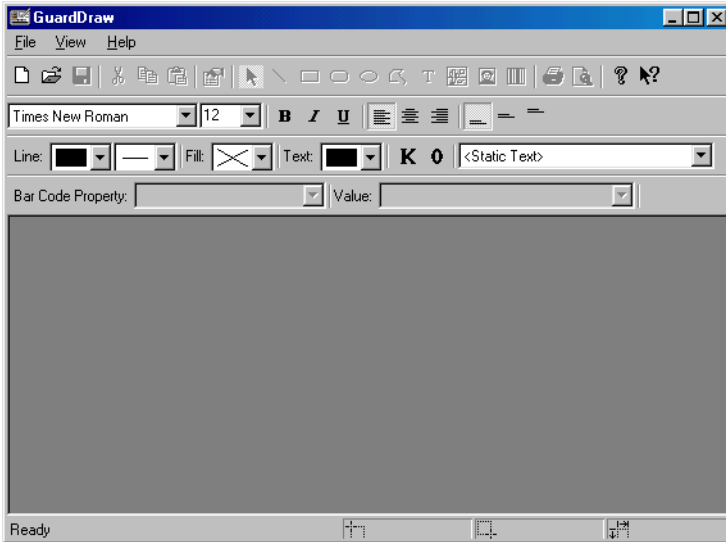

Figure 2: GuardDraw Main Window
1. If you already have a blank template open, skip to Step 4. Otherwise, double-click the icon (on the Windows desktop) to open the GuardDraw program. The GuardDraw main window appears (see Figure 2 on page 5).